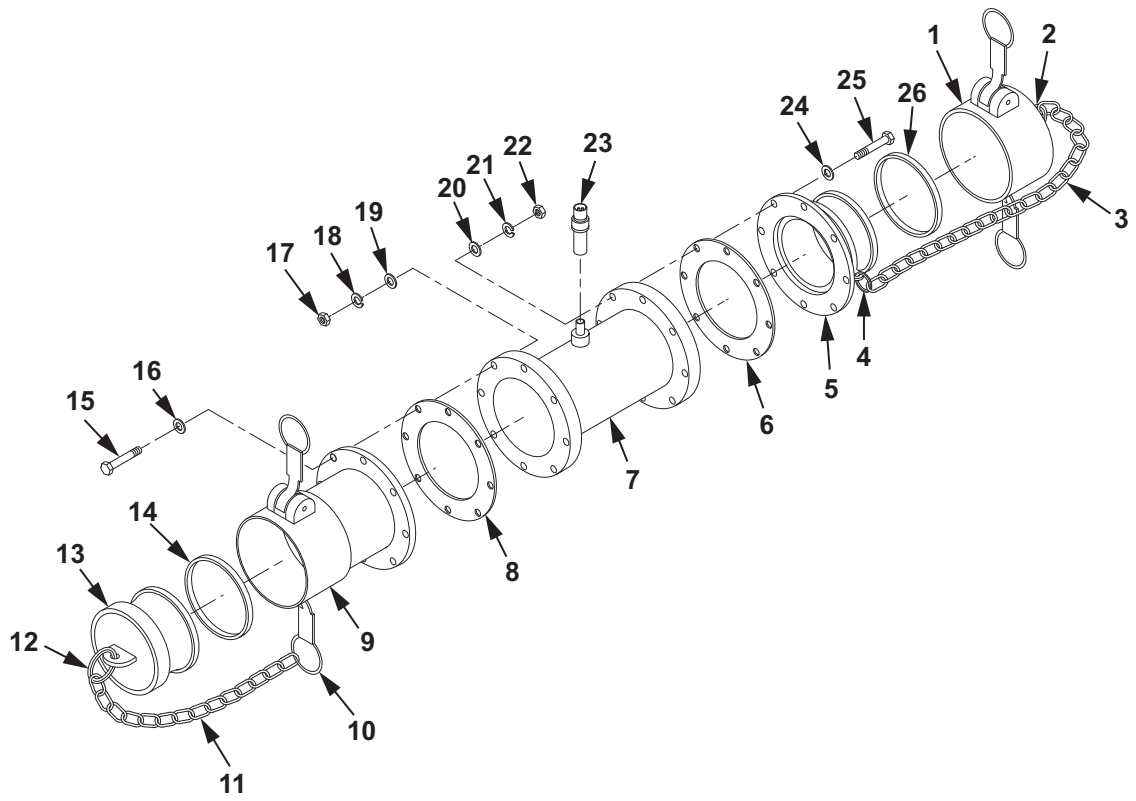

Figure 1. Tank Input Volume Meter Disassembly.
4. Remove split ring (Figure 1, Item 4) from male coupling (Figure 1, Item 5).
5. Remove split ring (Figure 1, Item 12) from quick disconnect dust plug (Figure 1, Item 13).
6. Remove split ring (Figure 1, Item 12) from chain (Figure 1, Item 11).
7. Remove split ring (Figure 1, Item 10) from female coupling (Figure 1, Item 9).
8. Remove split ring (Figure 1, Item 10) from chain (Figure 1, Item 11).
9. Remove quick disconnect dust cap (Figure 1, Item 1) and gasket (Figure 1, Item 26) from male coupling (Figure 1, Item 5).
10. Remove quick disconnect dust plug (Figure 1, Item 13) and gasket (Figure 1, Item 14) from female coupling (Figure 1, Item 9).
11. Discard gaskets (Figure 1, Item 26, 14).
1. Rotate magnetic pickup (Figure 1, Item 23) counterclockwise.
2. Remove magnetic pickup (Figure 1, Item 23) from flowmeter (Figure 1, Item 7).
1. Remove eight nuts (Figure 1, Item 22), lockwashers (Figure 1, Item 21), washers (Figure 1, Item 20), screws (Figure 1, Item 25) and washers (Figure 1, Item 24) from male coupling (Figure 1, Item 5) and flowmeter (Figure 1, Item 7).
2. Remove male coupling (Figure 1, Item 5) and gasket (Figure 1, Item 6) from flowmeter (Figure 1, Item 7).
3. Discard gasket (Figure 1, Item 6) and lockwashers (Figure 1, Item 21).
4. Remove eight nuts (Figure 1, Item 17), lockwashers (Figure 1, Item 18), washers (Figure 1, Item 19), screws (Figure 1, Item 15) and washers (Figure 1, Item 16) from female coupling (Figure 1, Item 9) and flowmeter (Figure 1, Item 7).
5. Remove female coupling (Figure 1, Item 9) and gasket (Figure 1, Item 8) from flowmeter (Figure 1, Item 7).
6. Discard gasket (Figure 1, Item 8) and lockwashers (Figure 1, Item 18).